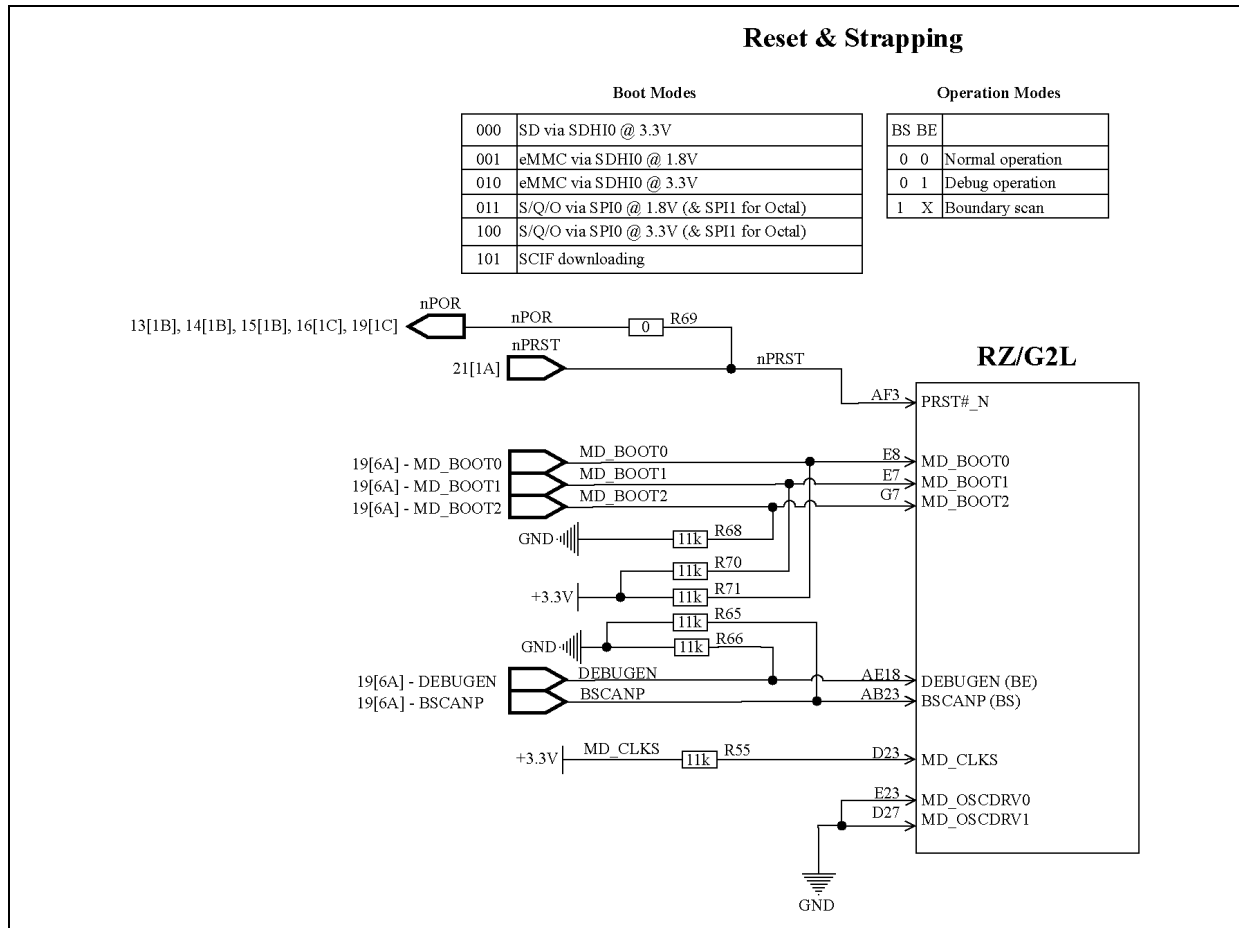

Figure 62. Reset Control Logic
In addition to the boot order, the SoC has two more lines: DEBUGEN (BE) & BSCANP (BS). These lines control the boot mode, which can be JTAG boundary scan or debug mode. Figure 62. Reset Control Logic below shows all the necessary information.